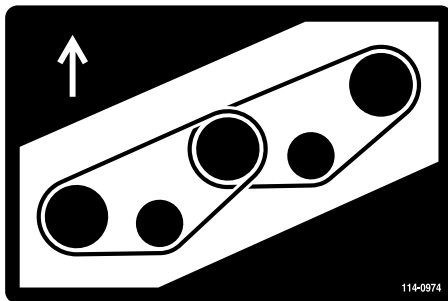
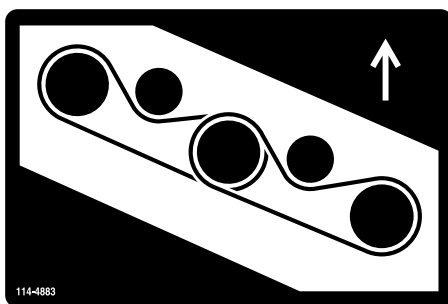

Figure 80
Figure 81
5. Route the new belt around the spindle pulleys and idler pulley assembly as shown in Figure 80 and Figure 81.